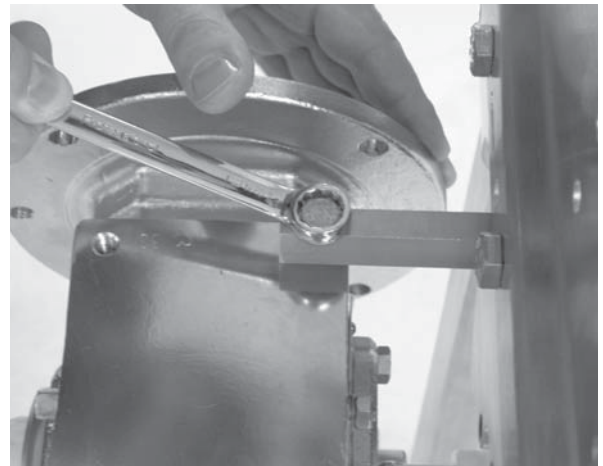

Figure 54
4. Unbolt the drive assembly and slide it off the bearing spindle (**Figure 54**).